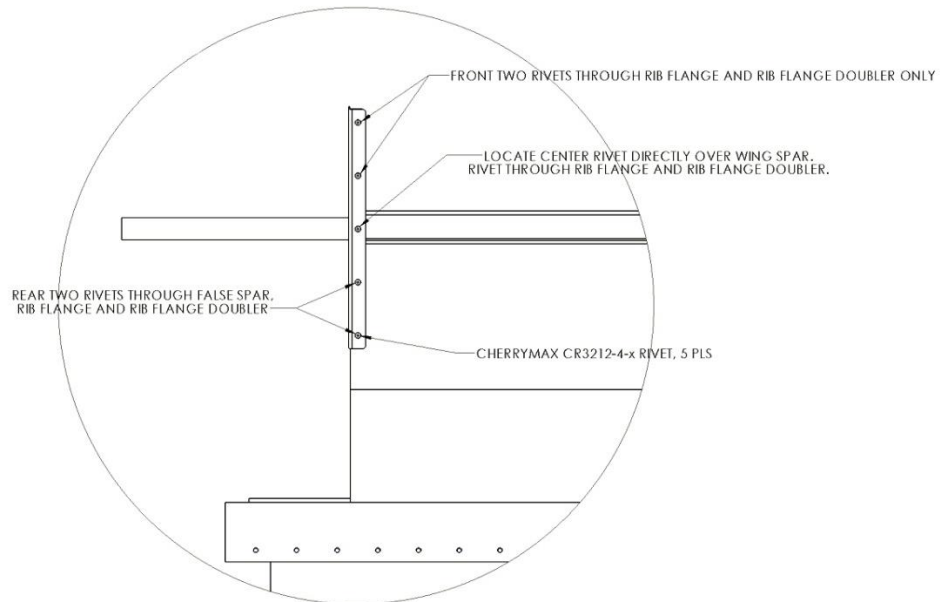

Figure 8: Rib Flange Doubler Installation Detail
- Rivet the doubler to the rib with 5 CherryMax 3212-4-X rivets in each wing, as specified in Figure 8. Use a CherryMax rivet gauge to determine the appropriate length rivet for each location (both -3 and -4 lengths are supplied in the standard kit).